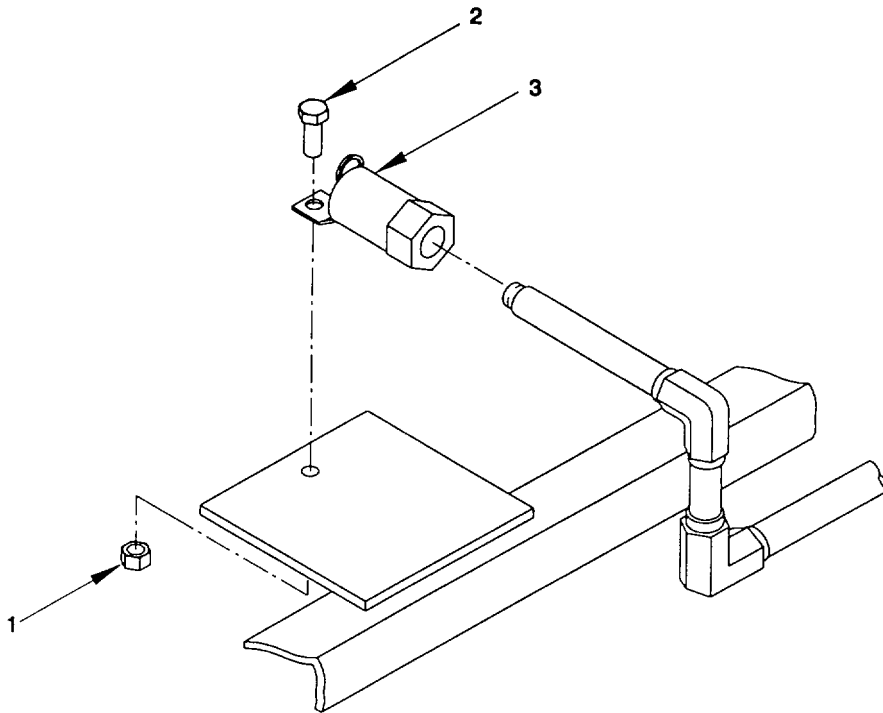

Figure 2-40. Pressure Operated Trip Mechanism, Fire Suppression System, Remove/Install.
a. Remove. (figure 2-40)
- (1) Remove hex nut (1), capscrew (2) freeing pressure trip mechanism (3) from support brace.
- (2) Unscrew pressure trip mechanism and discard.
b. Install. (figure 2-40)
- (1) Apply Teflon tape to male pipe thread.
- (2) Install new pressure trip mechanism (3) and secure tightly to support brace with capscrew (2) and hex nut (1).